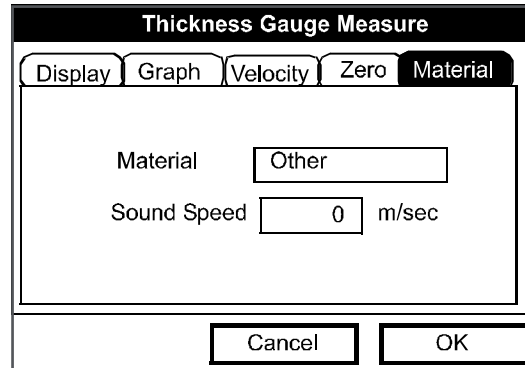

Figure 133: The Material Window
1. Entering the material and sound speed (in the Material window on *Figure 133*),
To enter the Thickness Gauge Display option, scroll to the T-Gauge Display entry on the Service Menu and press **[ENTER]**. The screen appears similar to *Figure 133*.